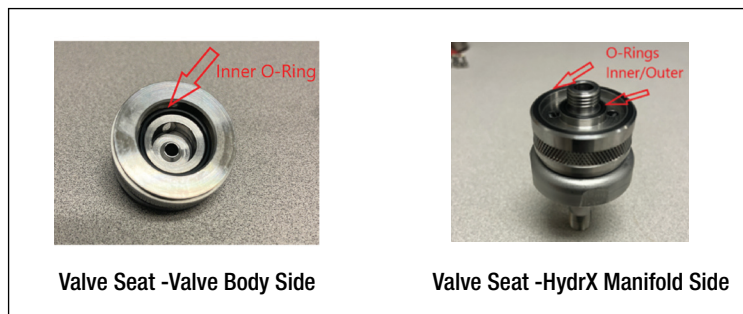

Figure 15. Outlet Valve O-Rings
- Check that the o-ring inside the valve seat and the two o-rings on the HydrX Manifold side of the valve are not cut or nicked (see Figure 15). In the event the valve is damaged, or components have been damaged or lost, the valve must be replaced.